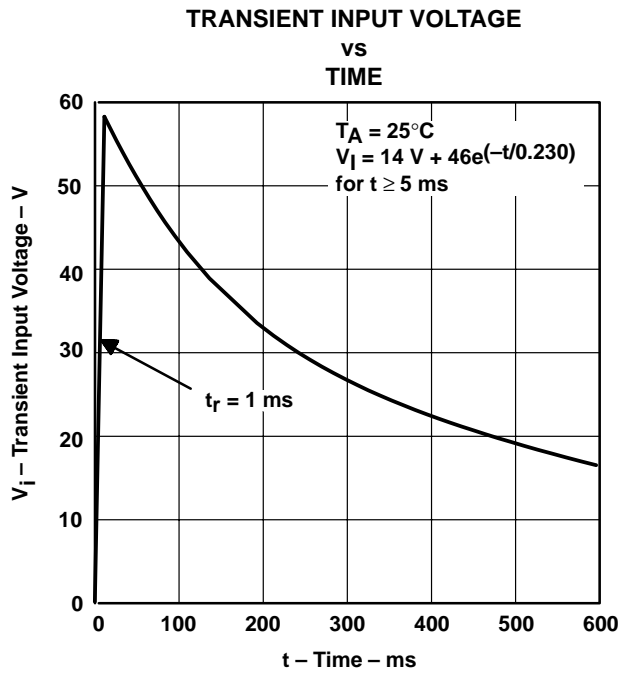

Figure 1
1. The transient input voltage rating applies to the waveform shown in Figure 1.